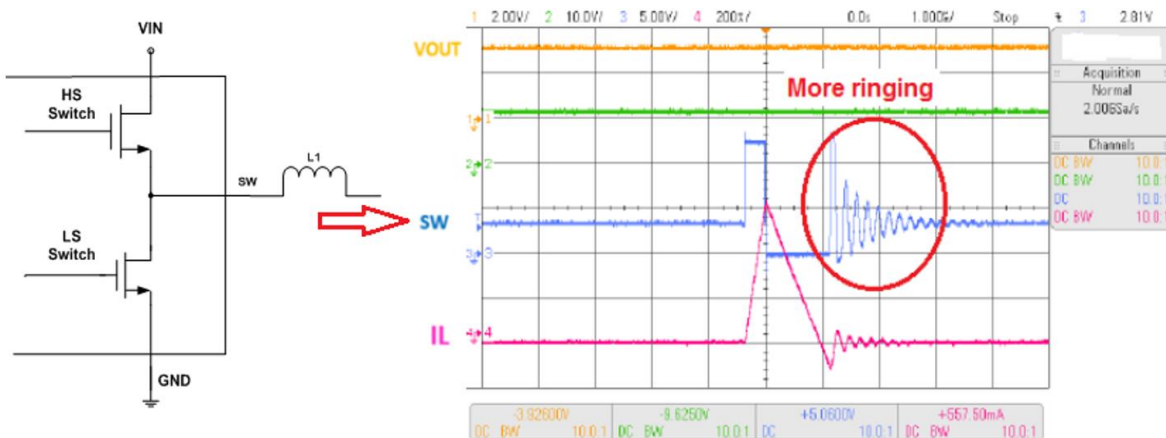
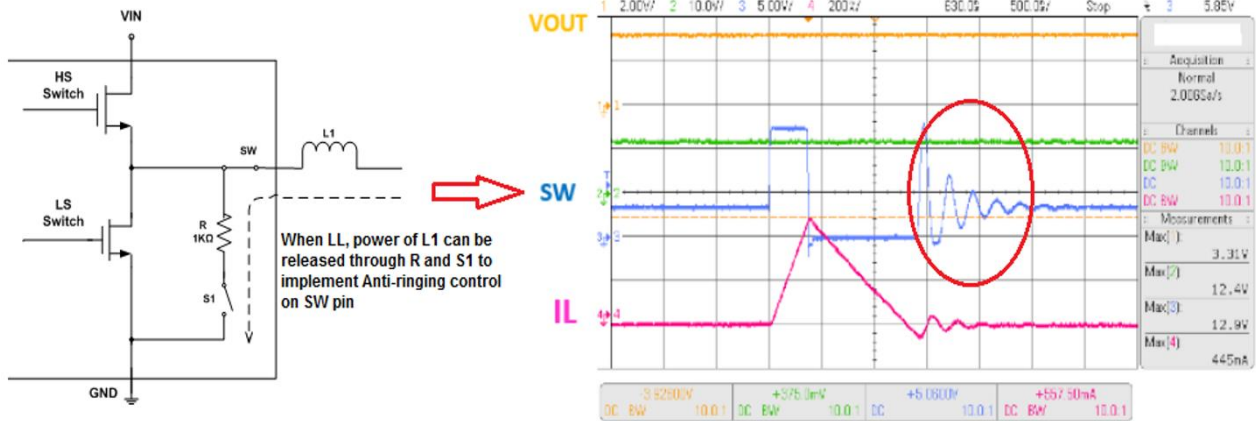

Figure 6: More Ringing on SW Before Anti-Ringing Control (Test conditions: $V_{IN} = 12V$, $V_{OUT} = 3.3V$, $I_{OUT} = 10mA$)
Figure 7: Less Ringing on SW After Anti-Ringing Control
Ringing on the switch node contributes to EMI. The more ringing a device has, the worse the EMI performance (see Figure 6). Adding a 1kΩ resistor (R) and another switch (S1) between SW and GND mitigates ringing. At light load, when both the HS and LS switches turn off, S1 turns on to allow some of the power of L1 to release through R and S1 to GND (see Figure 7).